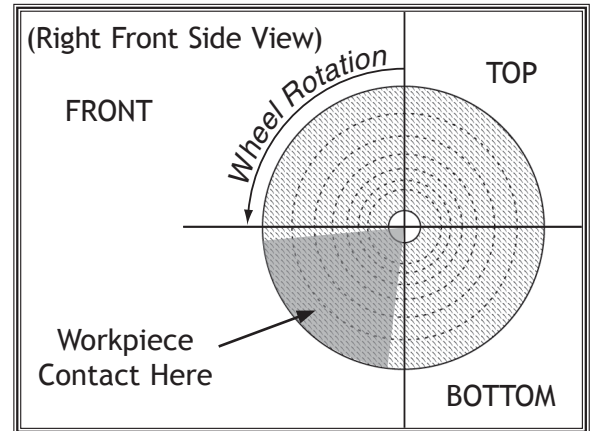

Figure 29. Location where workpiece should contact wheel.
- Only use the area indicated in **Figure 29** to do the actual buffing. Contacting the workpiece on areas outside the correct area may flip the workpiece out of your hands.